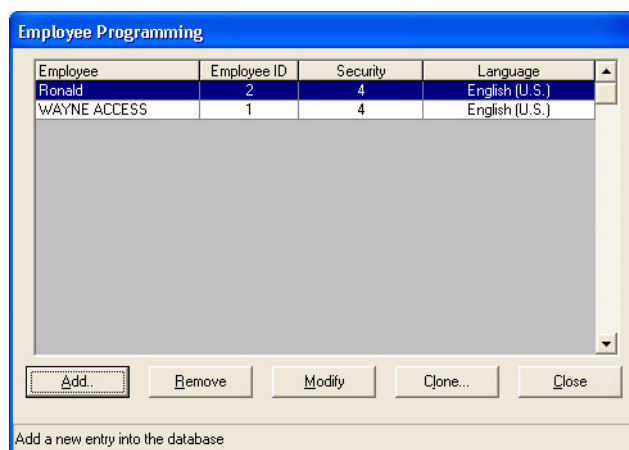

Figure 7-4 Employee Programming Window
1. Access the Employee Programming window by selecting **System > Employee**. The system displays the following window. See Figure 7-4.